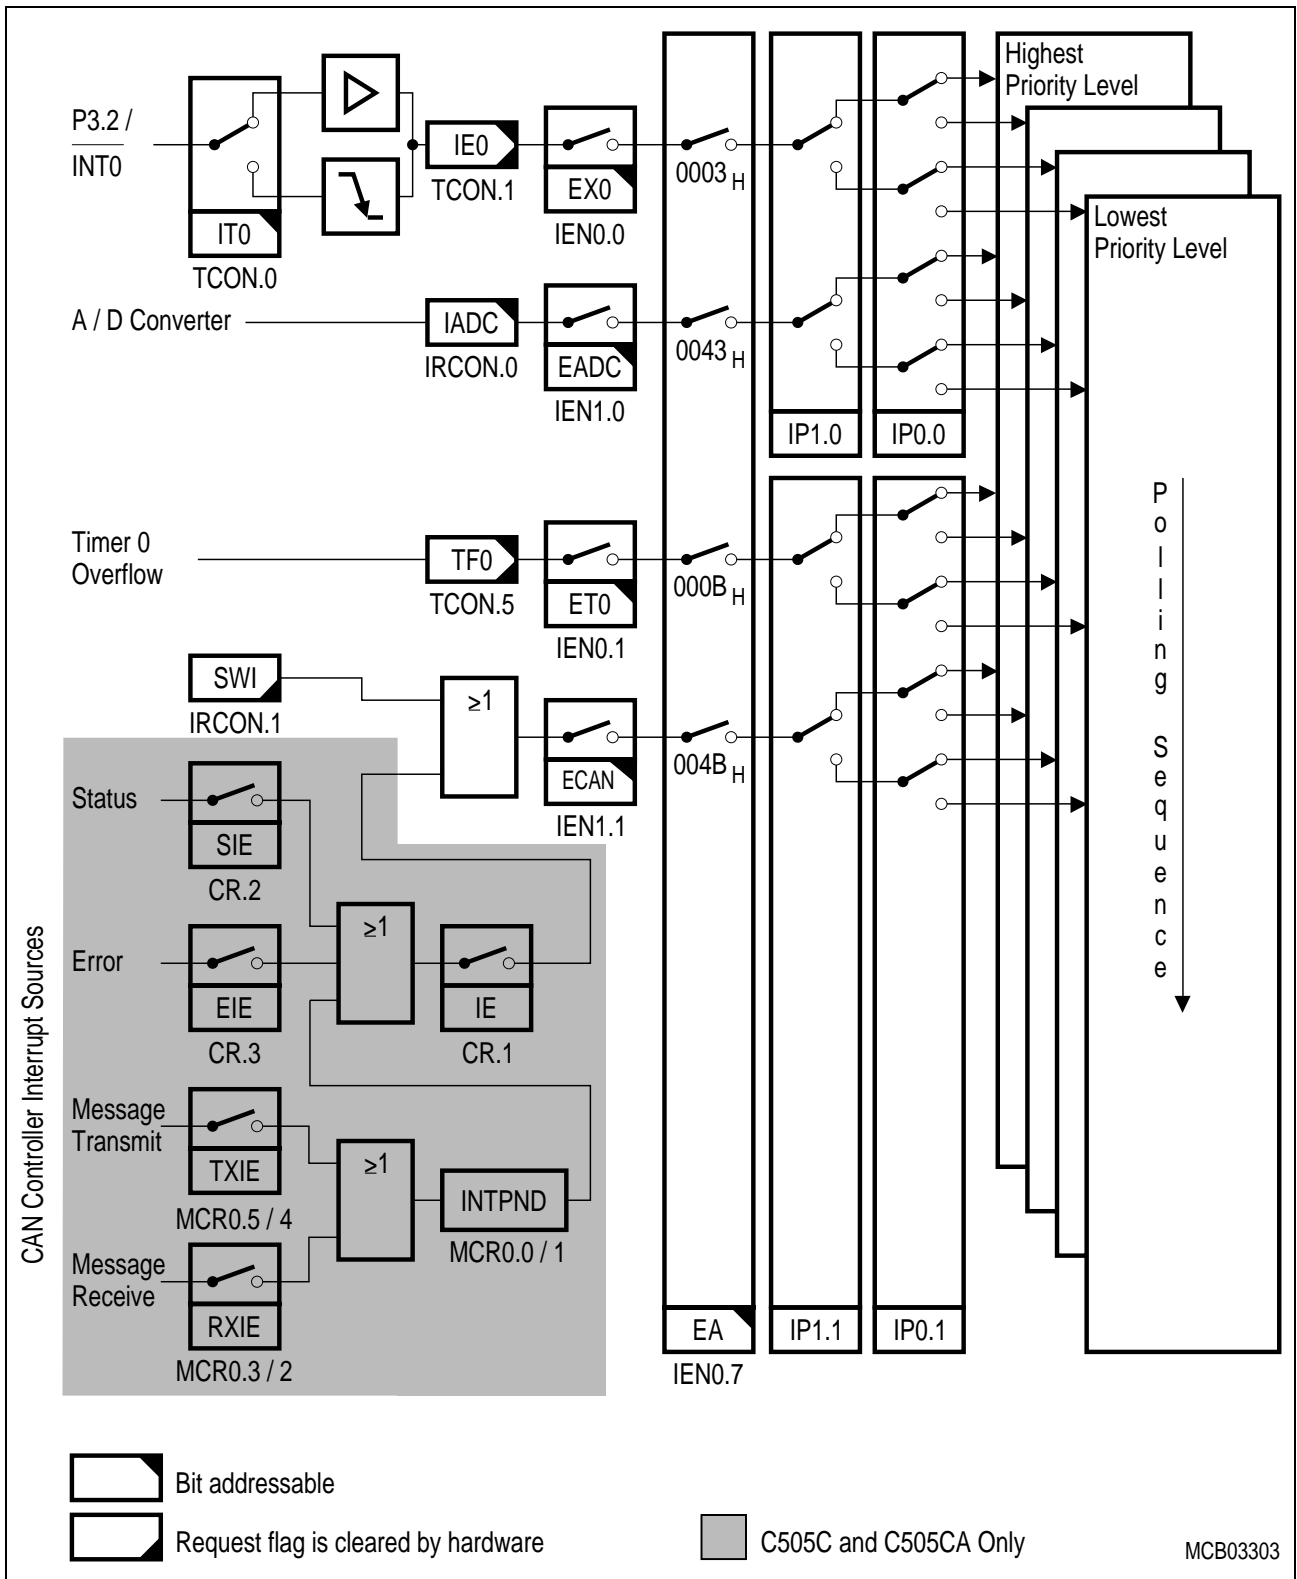

Figure 21
Figure 21 to **Figure 23** give a general overview of the interrupt sources and illustrate the request and the control flags which are described in the next sections. **Table 9** lists all interrupt sources with their request flags and interrupt vector addresses.
*Note: Each of the 15 CAN controller message objects (C505C and C505CA only), shown in the shaded area of **Figure 21** provides the bits/flags.*